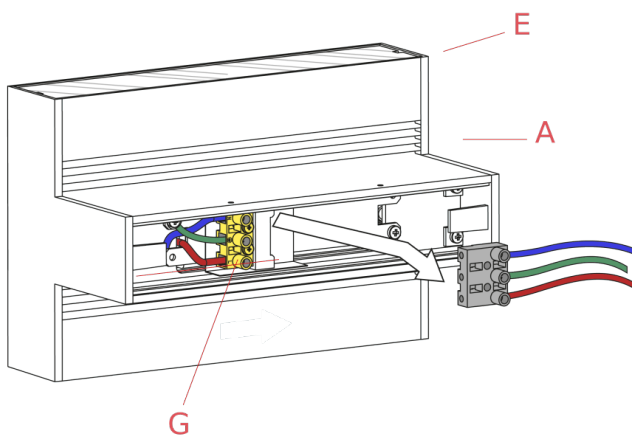

Fig.3
- Disconnect the female connector (C) from the male connector (G). (Fig.3)